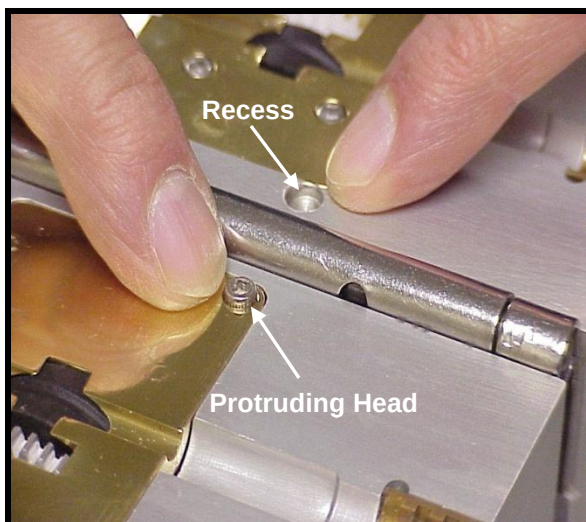

Figure 37
14.3.1.8 Important Note: When properly assembled, the heads of the two (2) long machine screws that secure the Lower Brass Plate to the lower Blowing Head section will protrude above the brass plate by about 1/16” (i.e. Not Flush with brass plate). This is correct. Do Not attempt to tighten the machine screws any further. Protruding screw heads fit into the recesses located in the upper Blowing Head section and act as aligning pins when the Blowing Head is closed. **See Fig. 37**